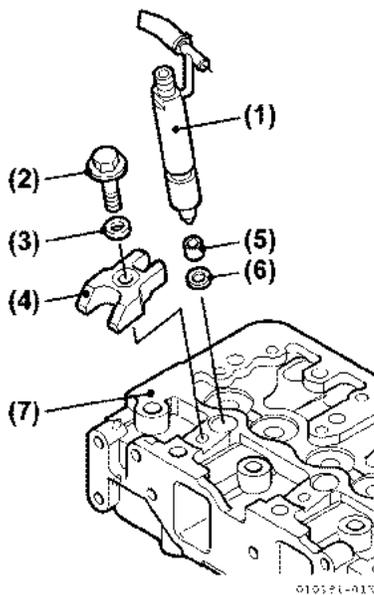
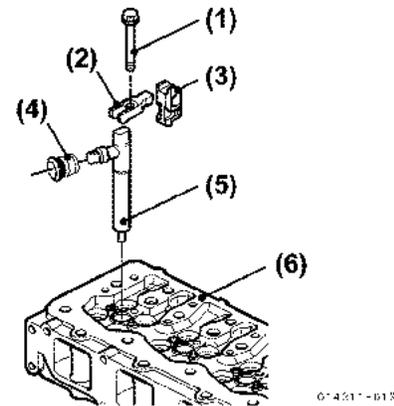

Figure 6-11
Figure 6-12
2. Install new gasket (Figure 6-11, (6)) on tip of injection nozzle (Figure 6-11, (1)) and (Figure 6-12, (5)).
3. Place the retainer ((Figure 6-11, (4)) for 3JH5E and 4JH5E or (Figure 6-12, (3)) for 4JH4-TE and 4JH4-HTE) on the injection nozzle as shown.
4. 4JH4-TE and 4JH4-HTE: Install the pipe seal (Figure 6-12, (4)).
6. Install bolt and washer (Figure 6-11, (2, 3)) and tighten to 26 N·m (19.2 in.-lb).